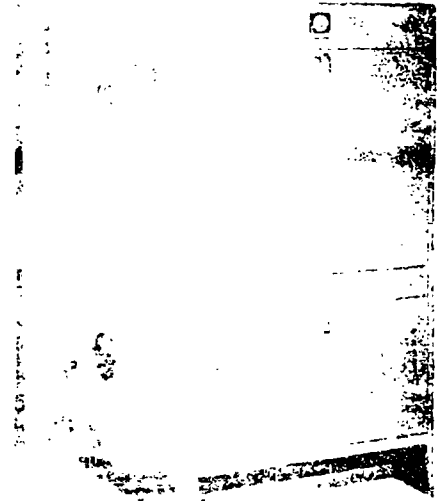

Fig. 11 - Pilot Valve Assembly
6. For Boiler with 100% Shutoff - Refer to Fig. 11 for installation of pilot burners. Attach the pilot switch at the R.H. side of the Front Line Panel with two #10 x 1/2" sheet metal screws. For boilers with more than one combustion chamber, locate the pilot switch to serve the pilot nearest to the right end of the entire boiler.